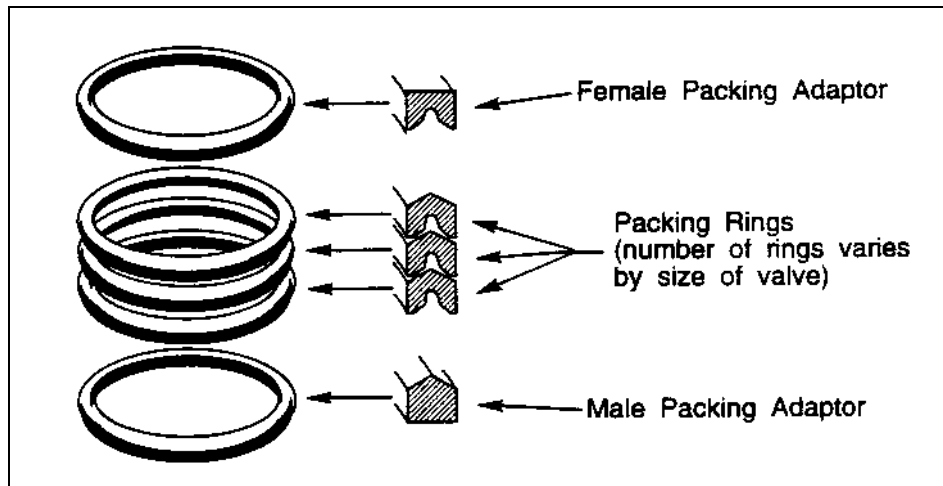

Figure 1—Correct Packing Installation Sequence
8. Lubricate the new packing, then install it one ring at a time in the sequence shown in Figure 1.
6. Lubricate the new packing, then install it one ring at a time. See Figure 1.